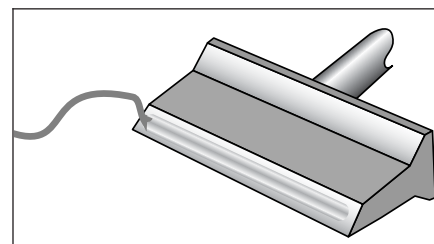

Figure 2 Tin Tip
3. Tin the tip on the beveled edge and clean the surface on the sponge, Procedure 2.8. If this does not produce a clean shiny surface use the manufacturer's recommended methods to remove any oxidation and/or discoloration. (See Figure 2.)